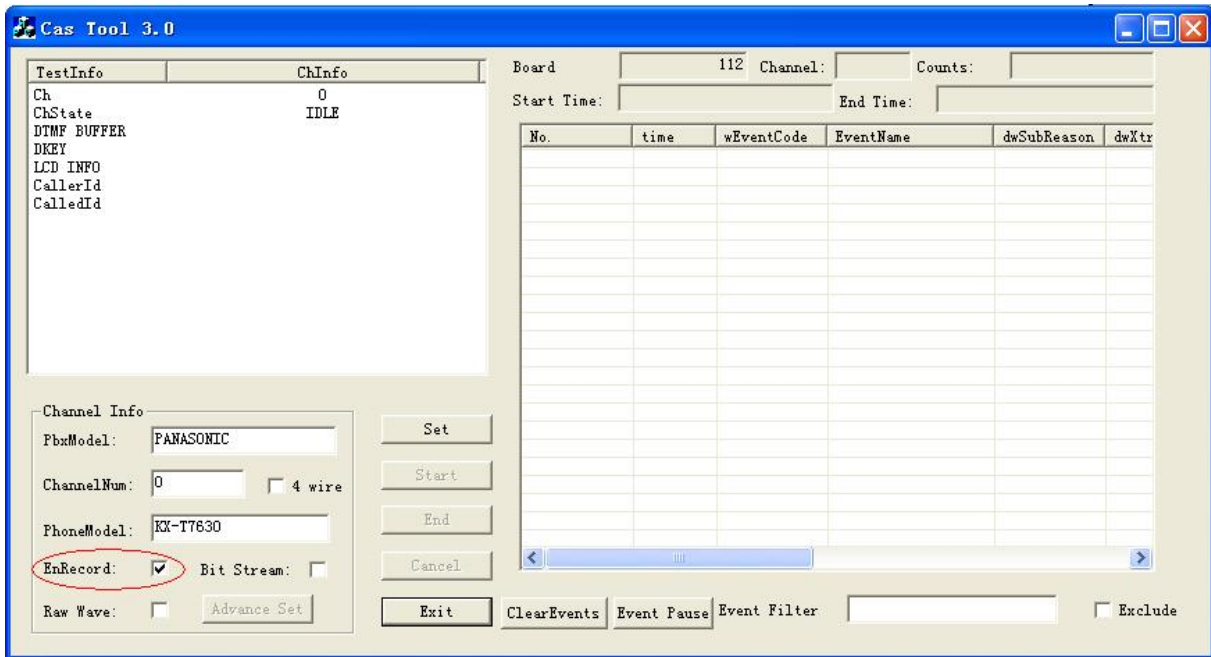

Figure 2-3
Step 3: If you need recording, tick the check box after 'EnRecord' as shown in Figure 2-3.